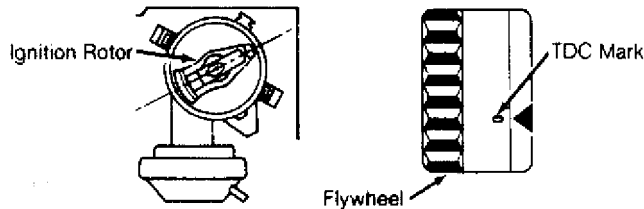

Fig. 7: Aligning Ignition Rotor (1.8L)
1) Align flywheel/flex plate "0" mark with pointer. This is TDC. Remove distributor cap and check position of ignition rotor. Rotate intermediate shaft and position rotor at No. 1 cylinder mark on housing. See Fig. 7.